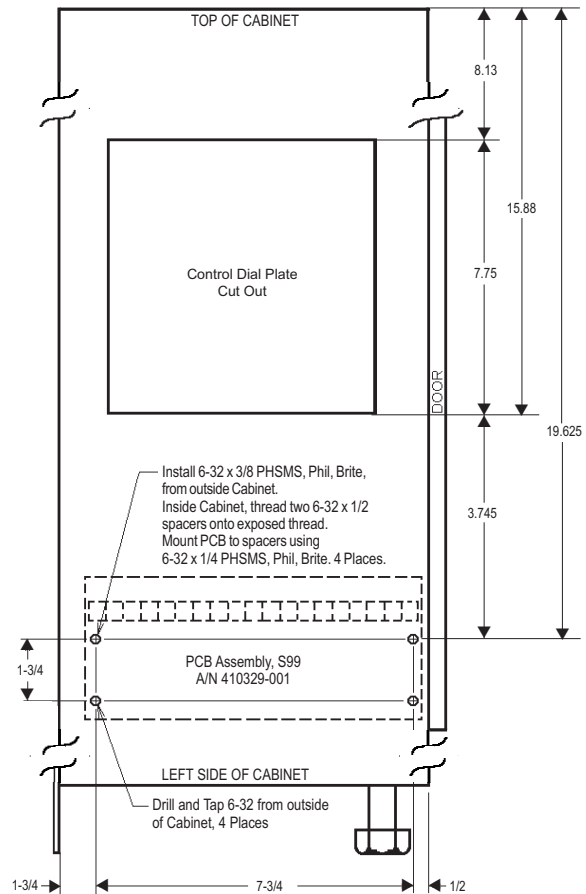

Figure 5. Mounting detail for “L”, “H”, “G” or “U” Cabinet with S99
3. Remove the four (4) screws mounting the Terminal Strip Input Board (A/N 410329) to the Cabinet. Rotate the Board 180° (so the terminal strip is at the top) and re-mount the Board using the same four (4) screws.
4. Drill and tap the left side of the cabinet per Figure 5, be sure to vacuum or otherwise remove **ALL** metal chips before installing four (4) 6-32 x 3/8 PHSMS, Phil., Brite from outside the cabinet. On the inside of the cabinet, mount two (2) 6-32 x 1/2 spacers (P/N 555031) on each exposed thread (4 places) to offset PCB 1" from cabinet wall.
5. Remove S99 PCB (A/N 410329-001) from bracket on rear panel, retaining 4 screws to mount TSS PCB in Step 6. Move S99 PCB to spacers on left side of cabinet; mount using four (4) 6-32 x 1/4 PHSMS, Phil., Brite. See Figure 5.
3. Drill and tap the left side of the cabinet per Figure 5, be sure to vacuum or otherwise remove ALL metal chips before installing four (4) 6-32 x 3/8 PHSMS, Phil., Brite from outside the cabinet. On the inside of the cabinet, mount one 6-32 x 1/2 spacers (P/N 555031) on each exposed thread (4 places) to offset PCB 1/2" from cabinet wall.